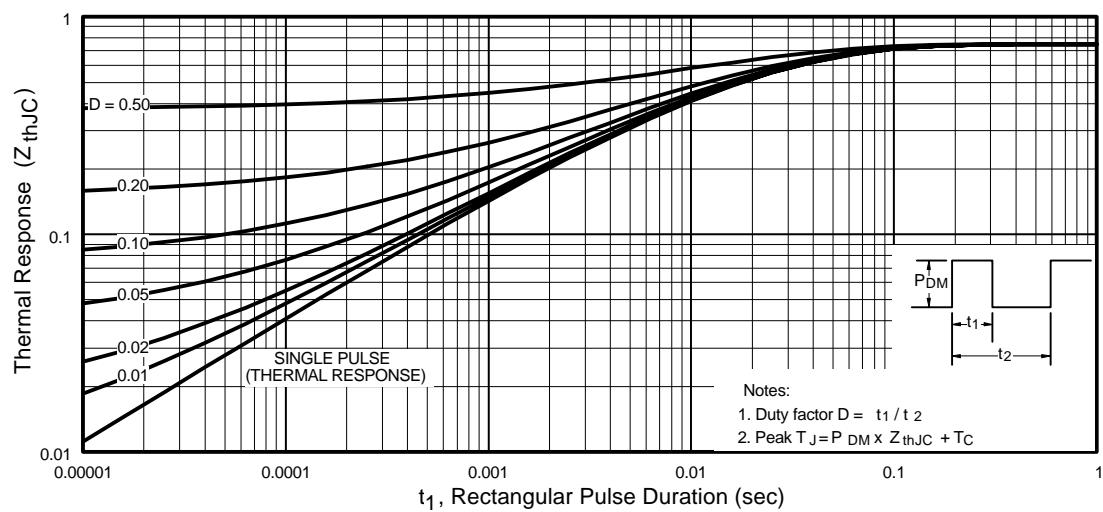

Fig 11. Maximum Effective Transient Thermal Impedance, Junction-to-Case
- ① Repetitive rating; pulse width limited by max. junction temperature. (See fig. 11).
- ② Starting $T_J = 25^\circ\text{C}$, $L = 0.08\text{mH}$
- $Z_{thJC}(D, t_{av})$ = Transient thermal resistance, see figure 11)